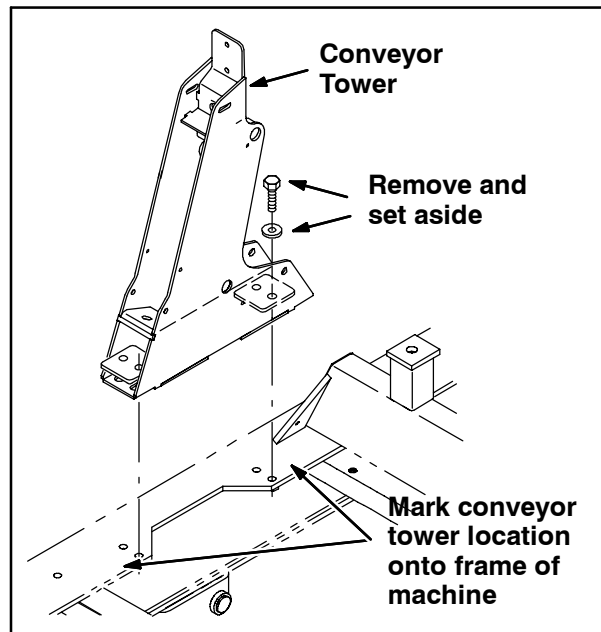
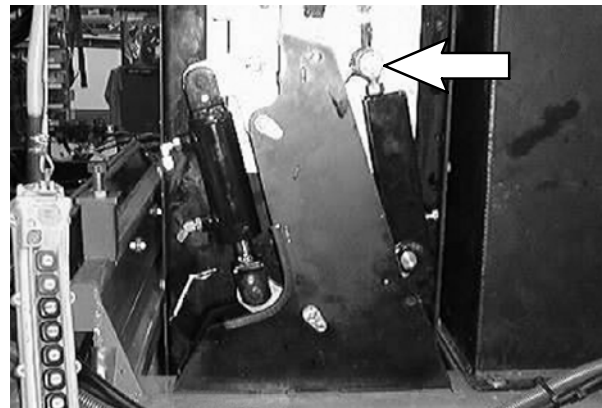

FIG. 8
FIG. 9
9. Use a permanent marker or scribe to mark the position of the conveyor towers on the machine. Refer to Fig. 8.
10. Remove the large bolts holding the rod ends to the conveyor side plates. Refer to Fig. 9.
12. Remove the hardware holding the conveyor towers to the machine. Set the hardware aside. Refer to Fig. 8.
13. Remove the conveyor towers from the conveyor assembly. Set the towers out of the way. **Do Not** disconnect any hydraulic hoses from the conveyor towers. Refer to Fig. 8 and Fig. 9.
15. Install the new conveyor assembly (1). Reinstall all previously removed components in the reverse order in which they were disassembled from the old conveyor.
16. Pack the bearing caps with grease (4) and reinstall the bearing caps onto the lower shaft. Grease the upper and lower bearings. Refer to the Operators Manual for grease fitting locations.